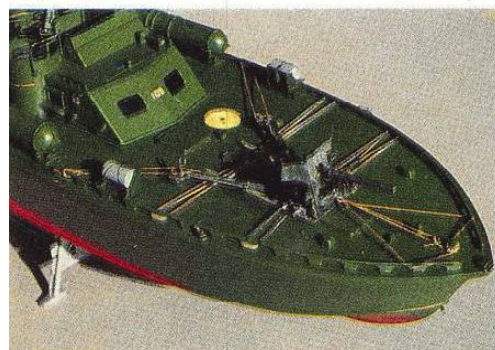

**Fig. 1** RUDDERS, PROPELLERS, AND SHAFT SUPPORTS
**Building new propellers and rudders.** The Elco boat was powered by three Packard V-12 engines mounted so that the center engine drove its shaft in-line and the outer engines each used a V-drive. The Lindberg kit includes parts for an electric motor and oversize propellers. Seal all holes in the hull for the motorized version with pieces of sheet plastic cemented to the inside of the hull. Then discard the kit parts and scratchbuild three smaller propellers, shafts, supports, and rudders, Fig. 1. I couldn't find any photos of the bottom of an 80-foot Elco, so the sizes in Fig. 1 are based on educated guesses but should be pretty close. Curve each blade slightly before attaching it to the hub and mount it at a small angle. The shafts may be aluminum, brass, or plastic tubing.